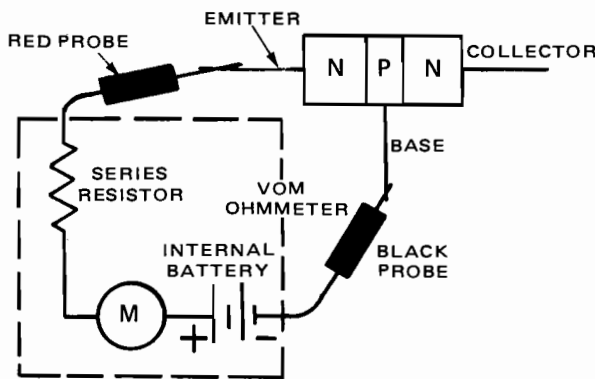

Fig. 13-3-3
5. Reverse probes of ohmmeter as indicated in Fig. 13-3-3. This action reverse biases emitter-base junction. Reverse bias resistance of transistor is _____ ohms.